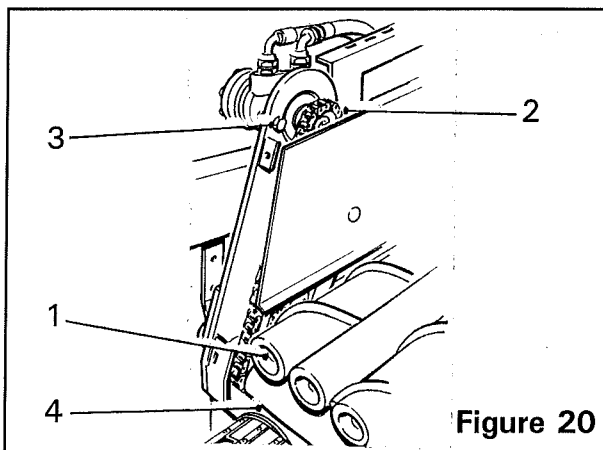

Figure 20
The rollers are retained on the cleaner unit shafts by a single bolt and washer (*item 1, figure 20*). To remove a roller, remove the bolt and slide the roller off the shaft. The rollers are a close fit on the spigot at the gearbox end and may need to be prised or bumped free. When replacing a roller, it is advisable to smear grease on the spigot. Take care to align the driving flats as the shaft slides home and do not force them if they are not in line.
The feed roller drive chain (*item 2, figure 20*) is tensioned by loosening the motor mounting bolts (*item 3, figure 20*) and then sliding the motor in the required direction. An adjustable scraper (*item 4, figure 20*) is mounted on the cross web side. This should be set to just clear the feed roller.